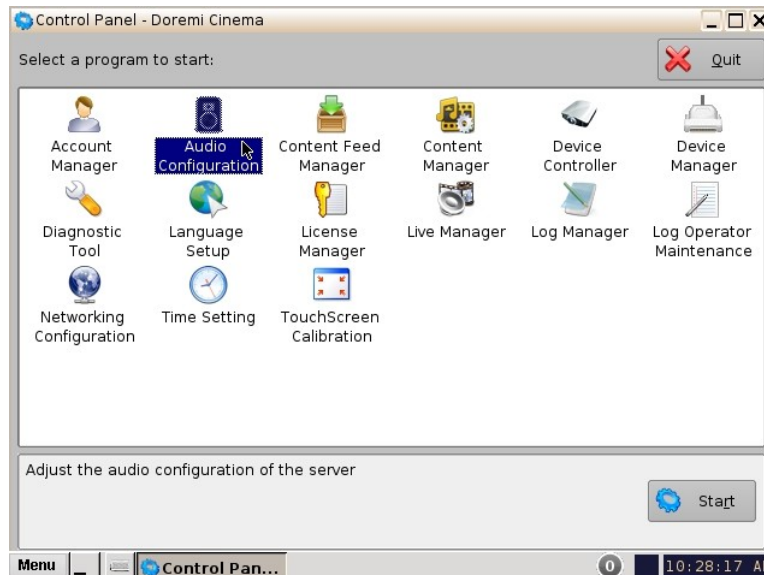

Figure 27: Control Panel with Audio Configuration Icon Selected
- To open the Audio Configuration application, go to Menu → Control Panel → Audio Configuration (Figure 27).